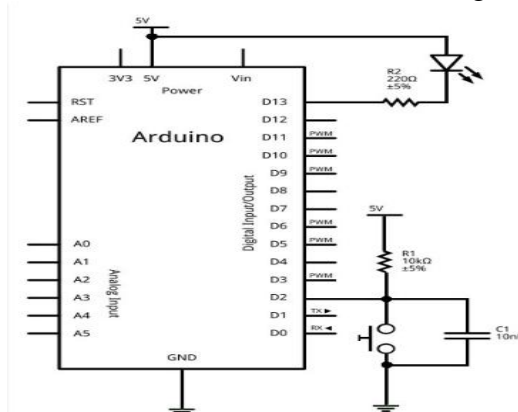

Fig.1: Pushbutton with a de-bounce circuit.
- Connect a **de-bounce circuit** (**capacitor**) and test again: Is the de-bounce circuit necessary? Show and explain by examples showing the problem. (See Fig.1.).